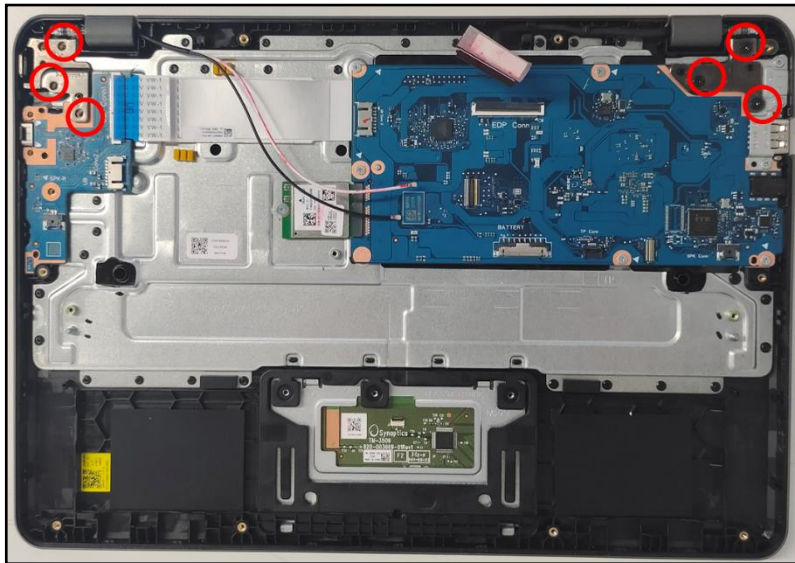

Figure 3-93. Replacing the LCD Module
3. Install six (6) screws to secure the LCD hinges in place (Figure 3-93).